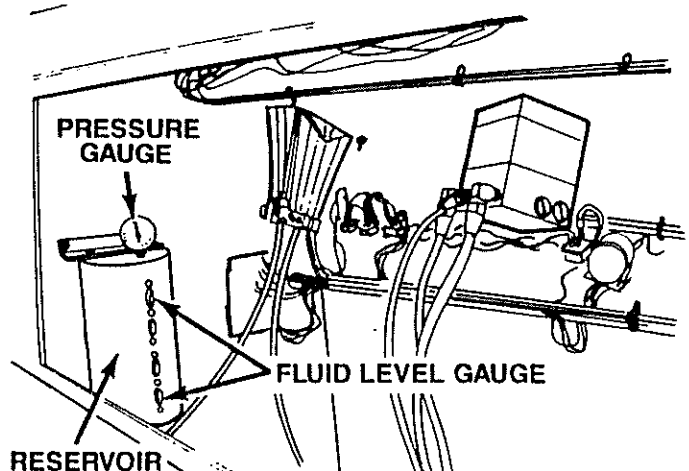

Figure 3-12 Checking Steering System Pressure
18. See Figure 3-12. Check that the pressure on the hydraulic steering reservoir gauge in the bridge command console. Pressure should be between 20 and 30 PSI. If pressure is low, have system serviced.